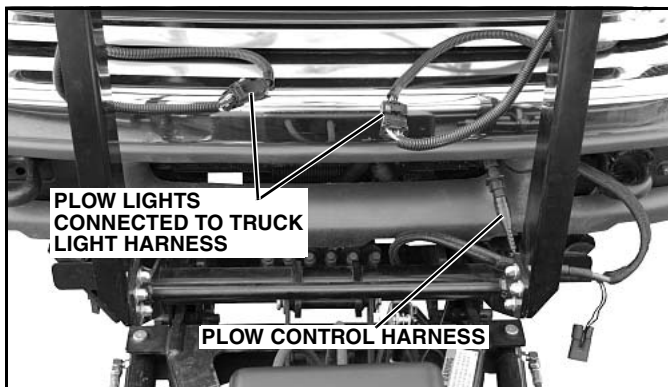

Figure 1-6
8. Plug plow light connectors into mating connectors on truck light harness (See Figure 1-6).